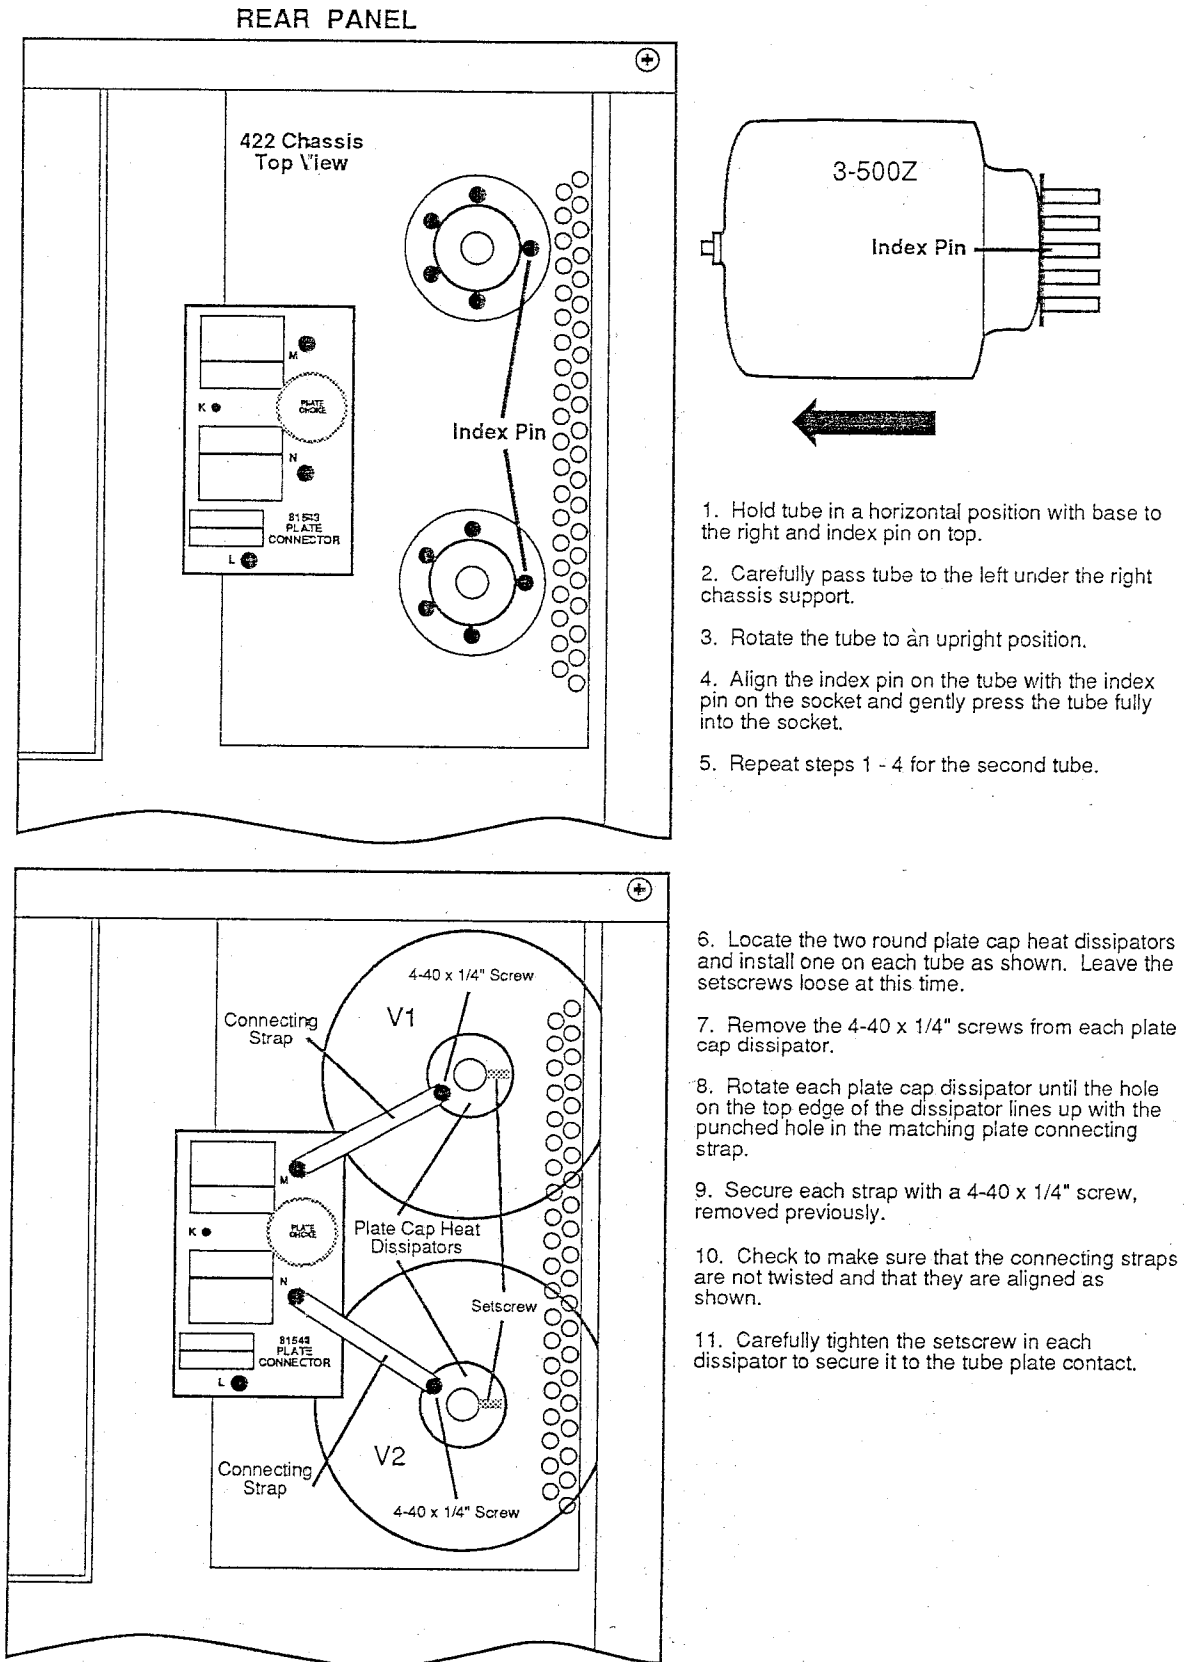

FIGURE 1-1. INSTALLATION OF 3-500Z TUBES
1-2 TUBE INSTALLATION Carefully unpack and inspect the two 3-500Z tubes which are shipped in a separate carton. Check to make sure that they are not damaged and that the base pins are not bent. **Make sure that the a.c. line cord is unplugged from the wall.** Remove the screws securing the top cover of the CENTURION. While spreading the bottom edge of the cover slightly, slide the top cover towards the rear and lift it off. Refer to FIGURE 1-1 to locate the tube socket index pin. Carefully install each tube following the procedure listed below:
- 6] Locate the two round aluminum plate cap heat dissipators and install on the plate caps as shown in FIGURE 1-1. Leave the set screws loose at this time.
- 9] Check to make sure that the plate connecting straps are not twisted and that they are aligned with the dissipators as shown in FIGURE 1-1. Carefully tighten the set screw in each dissipator to secure it to the tube plate contact.